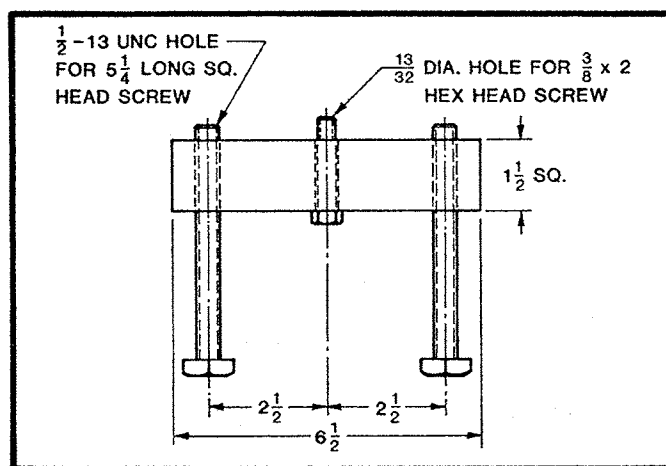
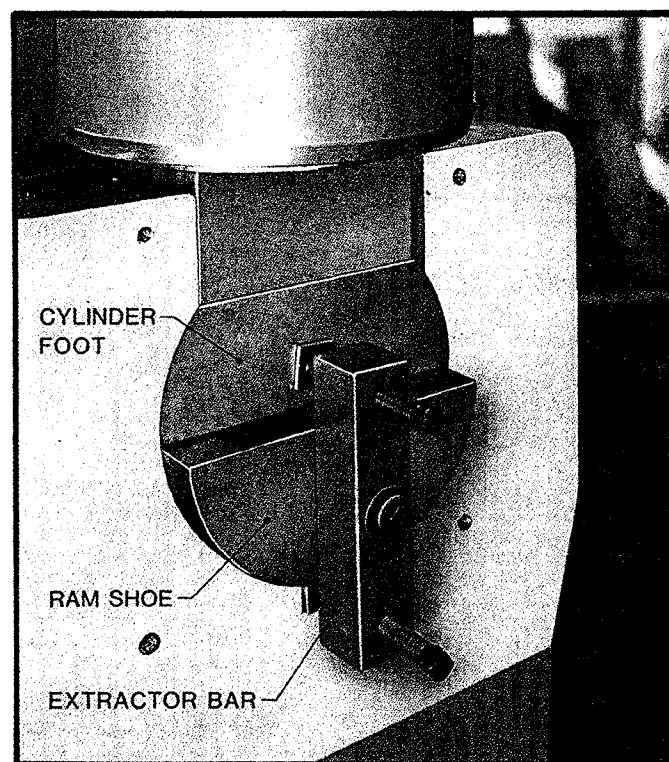

FIGURE 38
FIGURE 39
3. Remove ram pin cover plate on front of ram. Using extractor bar, Figure 38, remove the ram shoe, Figure 39.